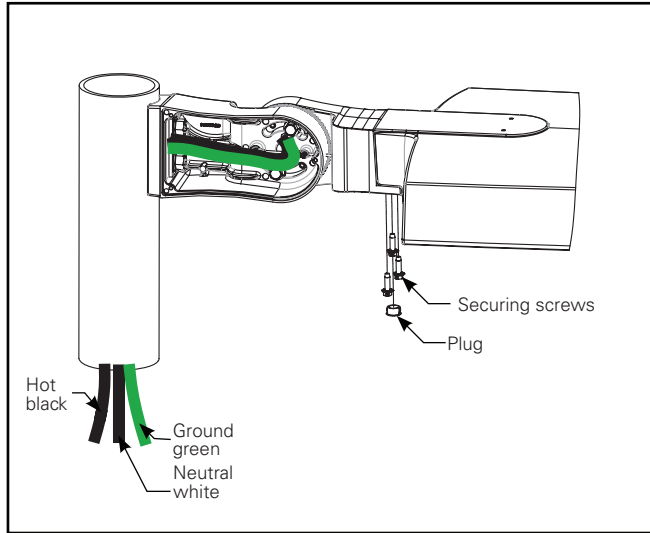

Figure 4.
7. Fasten the luminaire housing to the mounting arm as follows: (Figure 4.)